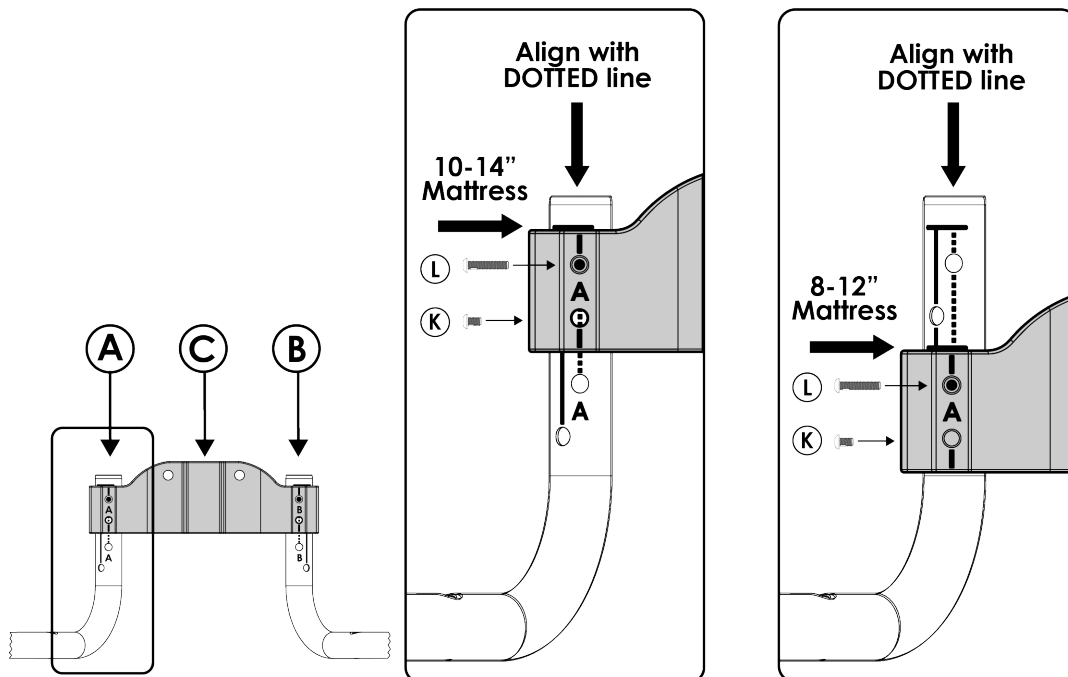

FIGURE 7
7. Align line on **C** with the dotted vertical line on **A**. Align top edge of **C** with appropriate horizontal line for mattress height. Screw in **L** and tighten firmly with tool provided (**H**). Insert **K** into lower hole and tighten firmly. Repeat for opposite side (**B**). See *FIGURE 7*